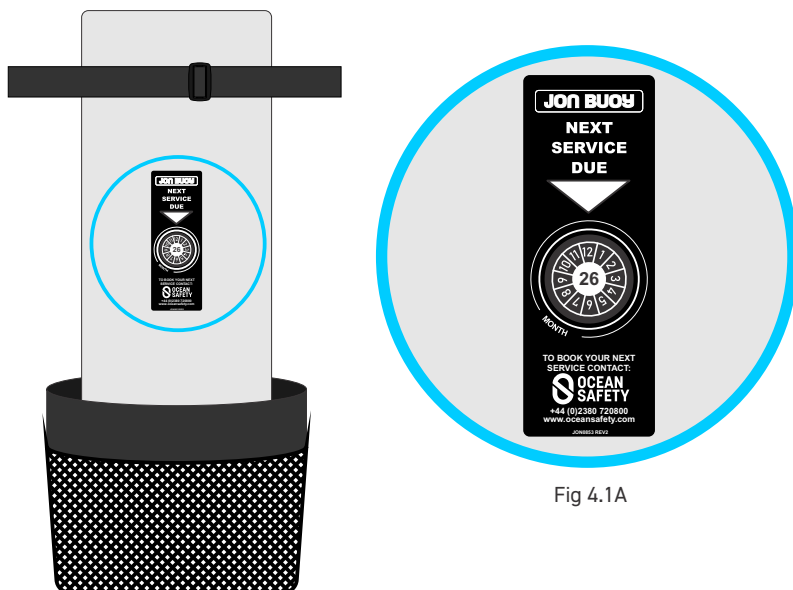

Fig 4.1A
4.1.2 The recommended first service date is defined by the black sticker on the inside face of the mounting bracket (see Fig 4.1A). The outer number denotes month and year is indicated in the centre of the circle.